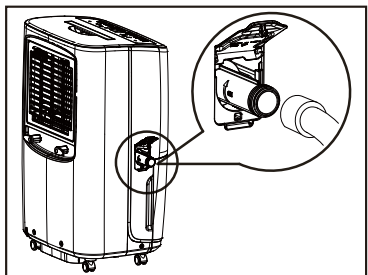

fig. 4
- Screw the garden hose onto the threaded portion of the drainage joint. (fig.4)
- Make sure the hose is secure so there are no leaks. (fig.4)